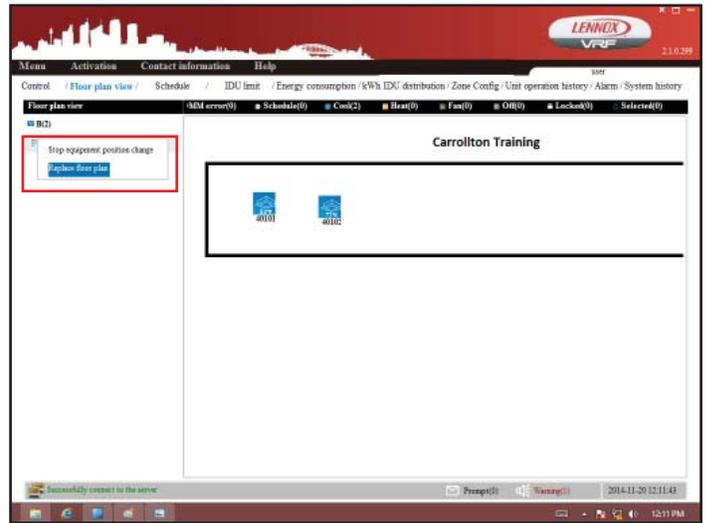

Figure 18. Replace Floor Plan
2. Tap Replace floor plan. The options for floor plans display (if this is the first time to import a floor plan image, the current floor plan display will be blank). See figure 18.